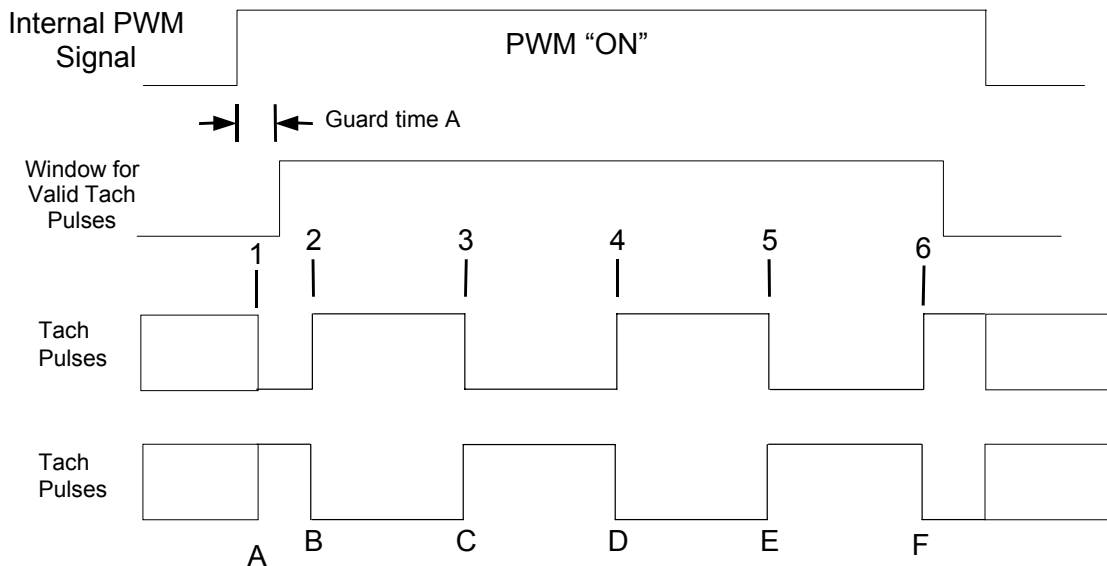

Figure 7.5 PWM and Tachometer Concept
7.1.4.4.2 ASSUMPTIONS (REFER TO FIGURE 7.5, "PWM AND TACHOMETER CONCEPT"):
The Tachometer pulse generates 5 transitions per fan revolution (i.e., two fan tachometer periods per revolution, edges 2→6). One half of a revolution (one tachometer period) is equivalent to three edges (2→4 or 3→5). One quarter of a revolution (one-half tachometer period) is equivalent to two edges. To obtain the fan speed, count the number of 90Khz pulses that occurs between 2 edges i.e., 2→3, between 3 edges i.e., 2→4, or between 5 edges, i.e. 2→6 (the case of 9 edges is not shown). The time from 1-2 occurs through the guard time and is not to be used. For the discussion below, an edge is a high-to-low or low-to-high transition (edges are numbered – refer to Figure 7.5, "PWM and Tachometer Concept").
- 2, 3, 5 or 9 “edges” to calculate the fan speed (Figure 7.5)
- Guard time A is programmable (8-63 clocks) to account for delays in the system (Figure 7.5)